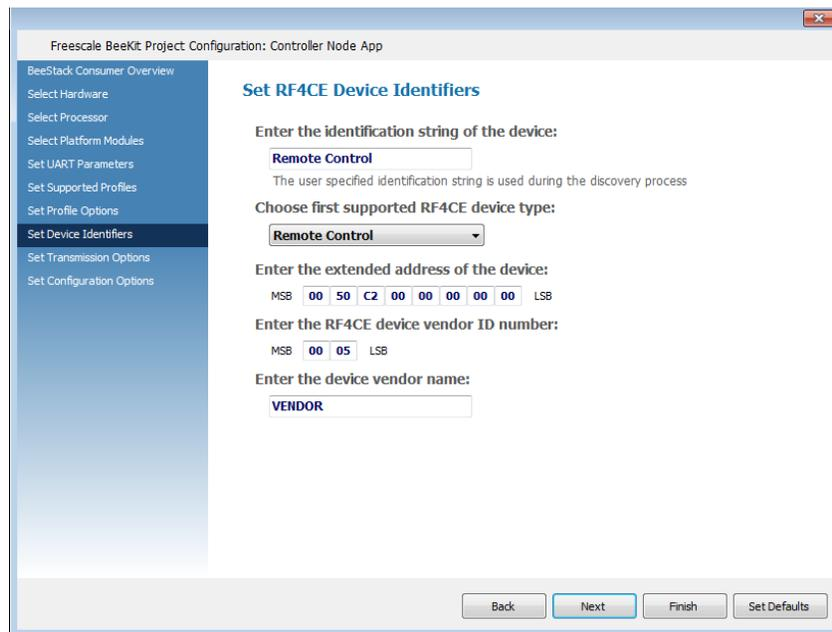

Figure 2-10. Set RF4CE Device Identifiers Page
8. The window as shown in Figure 2-10 displays additional RF4CE device configuration options: identification string, RF4CE device type, extended address, vendor identifier, vendor name.